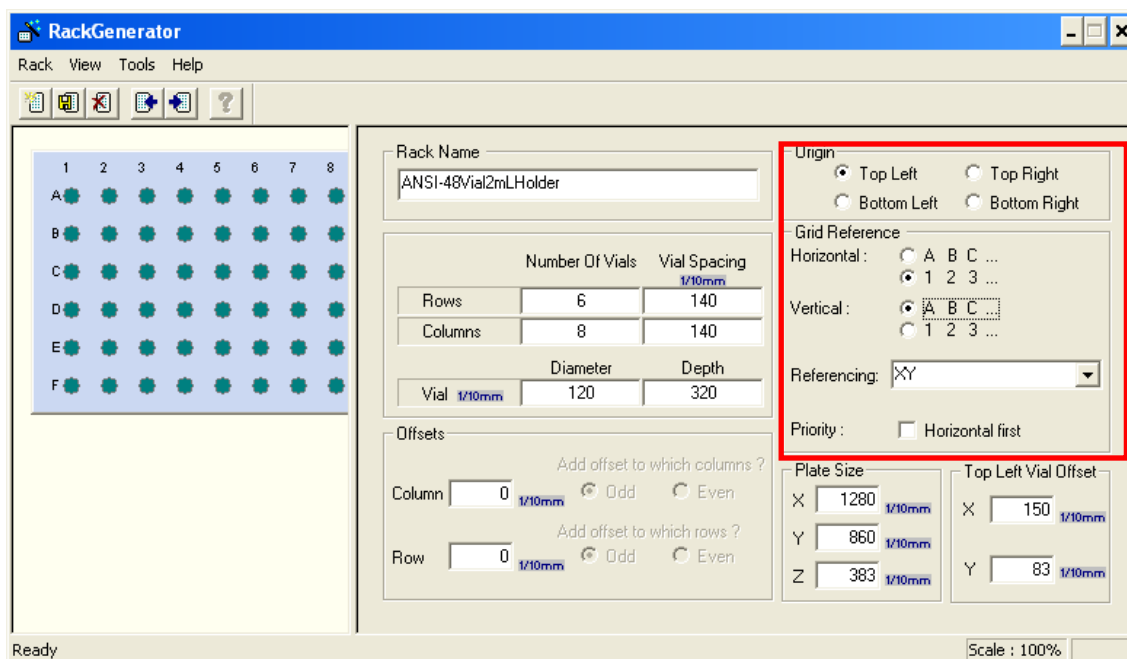

Figure 56 - Rack generator settings for ANSI-48Vial2mLHolder
14. Enter the parameters shown in Figure 56.